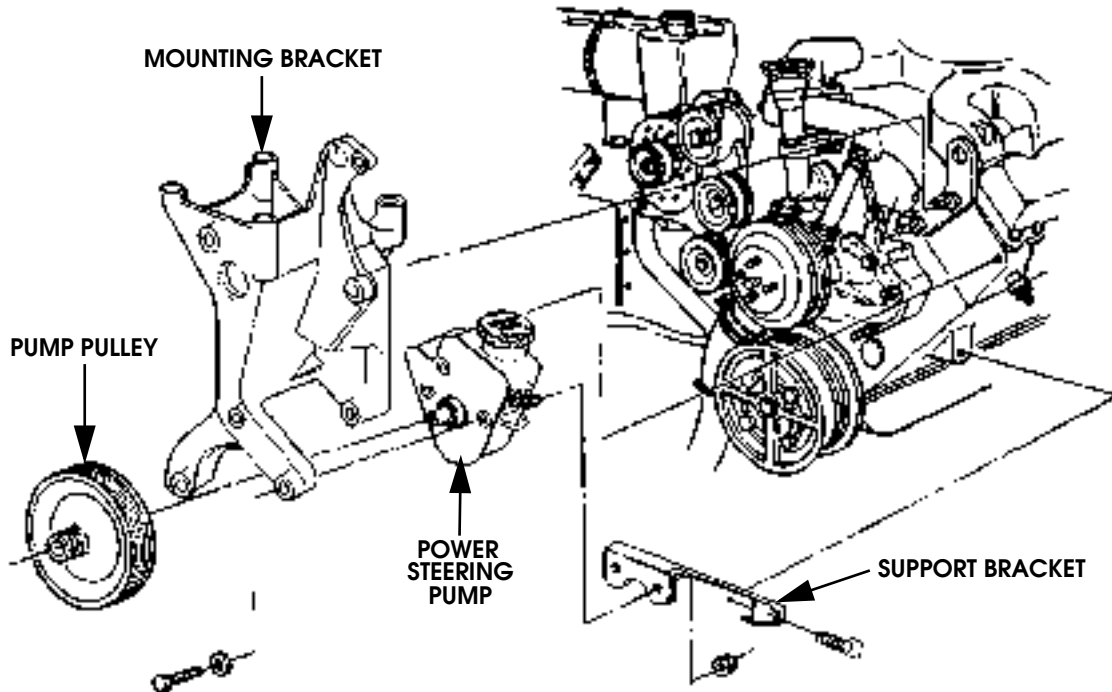

Figure 2-67: Power Steering Pump and Bracket Removal.
2. If pump requires service, remove pump attaching bolts and remove pump from bracket (Figure 2-67).